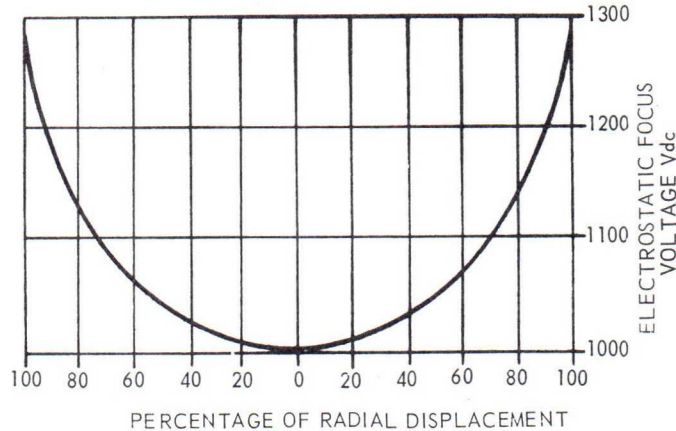

FIGURE 3
3. For certain applications, the combined use of electrostatic and magnetic focus is desirable. The principle purpose of this mode of operation is to facilitate dynamic focus correction by superimposing a time varying voltage on the quiescent value of focus voltage noted in typical operating conditions. The approximate shape and amplitude of the electrostatic dynamic focus waveform are given in Figure 3.